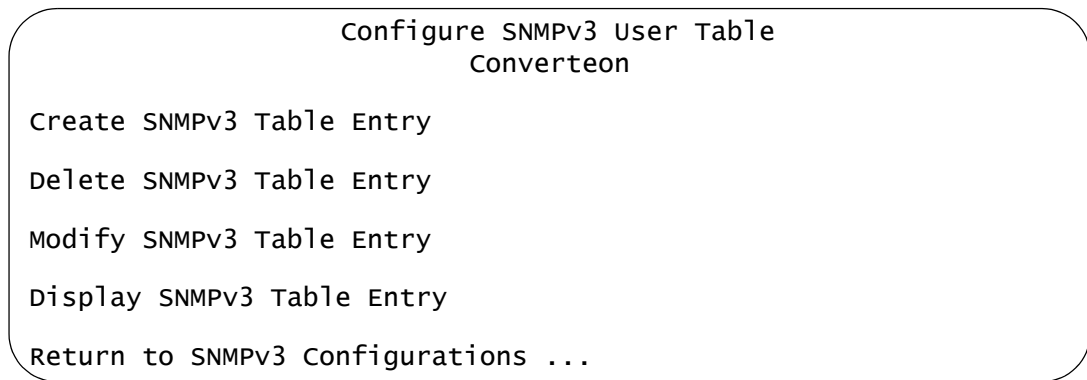

Figure 111. Configure SNMPv3 User Table Menu
- From the Main Menu, select **Configuration -> System Configuration -> SNMPv3 Configurations -> Configure SNMPv3 User Table**. The Configure SNMPv3 User Table menu is shown in Figure 111.